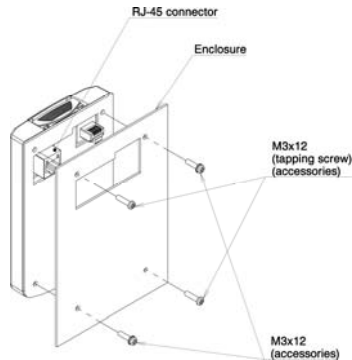

Figure 2.33 Mounting a Keypad
- ② Make a cut-out on the enclosure wall. For details, refer to Chapter 8, Section 8.5.3 "Keypad"
- ③ Mount the keypad onto the enclosure with 4 screws as shown in Figure 2.33. (Recommended tightening torque: 6.2lb-in (0.7 N·m))